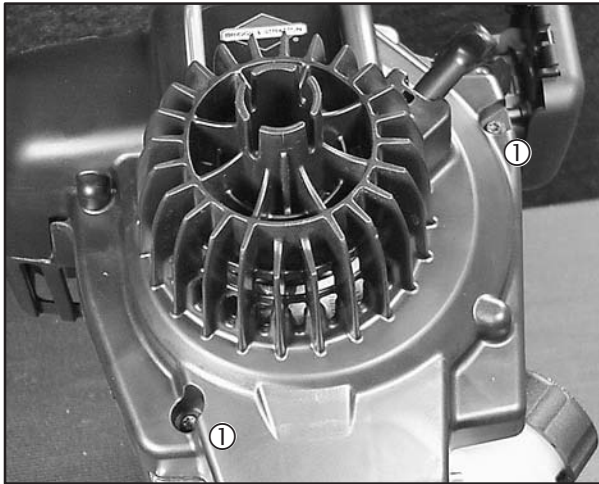

Fig. 6
2. Install 2 screws in blower housing, Fig. 6.